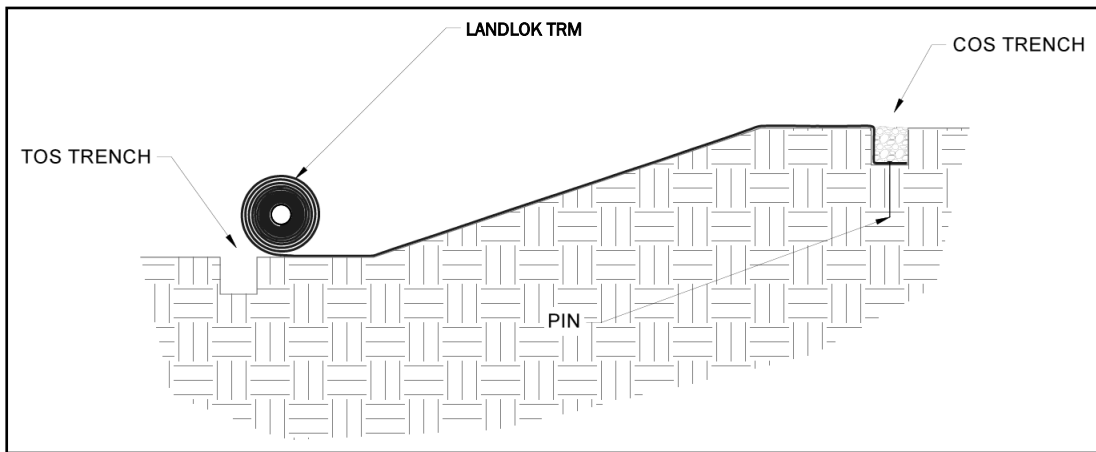

Figure 6: Placement of LANDLOK across Slope
5. Unroll the LANDLOK roll on the slope surface in the area to be armored (Figure 6). Ensure that LANDLOK has intimate contact with the ground and all irregular surfaces beneath LANDLOK are removed.